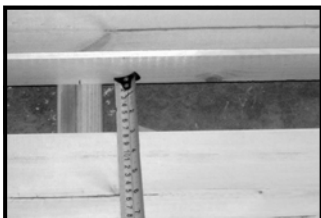

Fig J4
6. Measure the distance between the last full board and the wall (Fig J4). This measurement is then marked on the final board and then cut to fit , **leaving the groove on the board** .